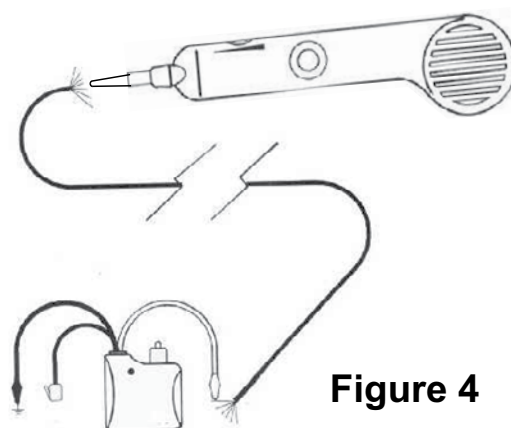

Figure 4
1. Connect the test leads to the pair, or attach one lead to ground and one lead to either side of the line. (See figure 4)